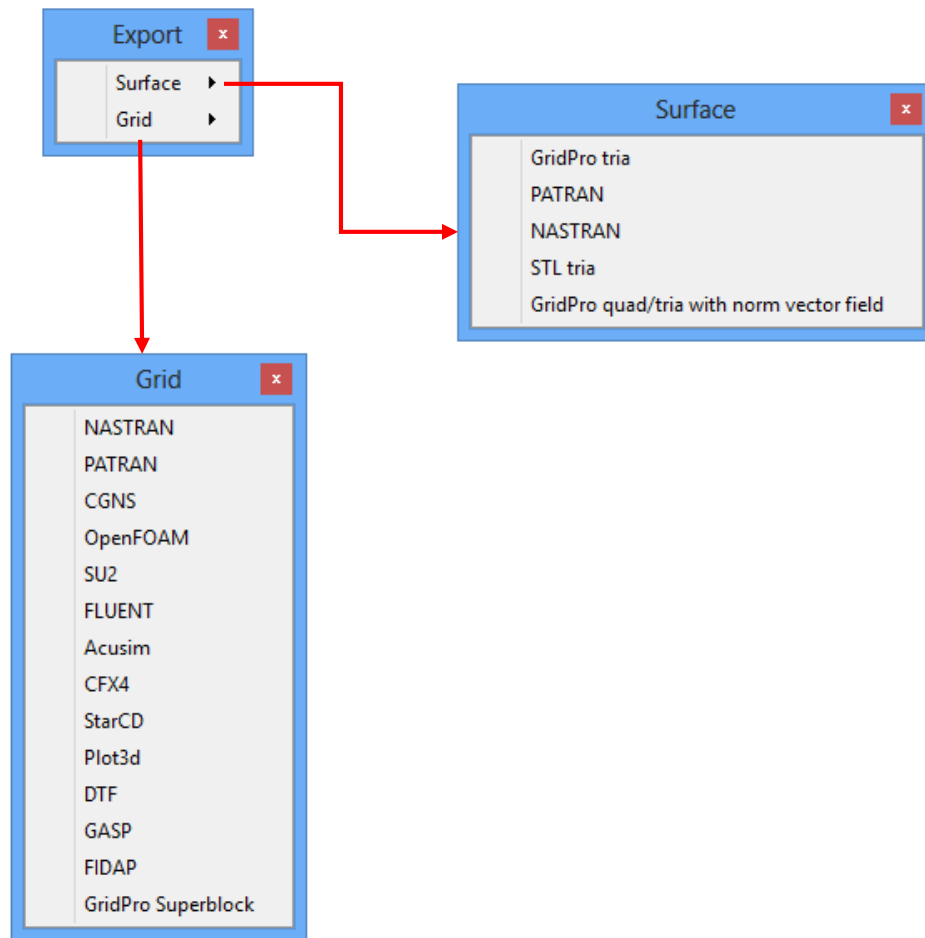

Figure 2.17: Export formats of surface and grid
**Export** option allows you to export various surface and grid formats from *GridPro*. Once the appropriate format is selected, it converts the file from *GridPro* format to the selected output format and saves it in the working directory. Figure 2.17 shows various export surface and grid formats available in the UI.